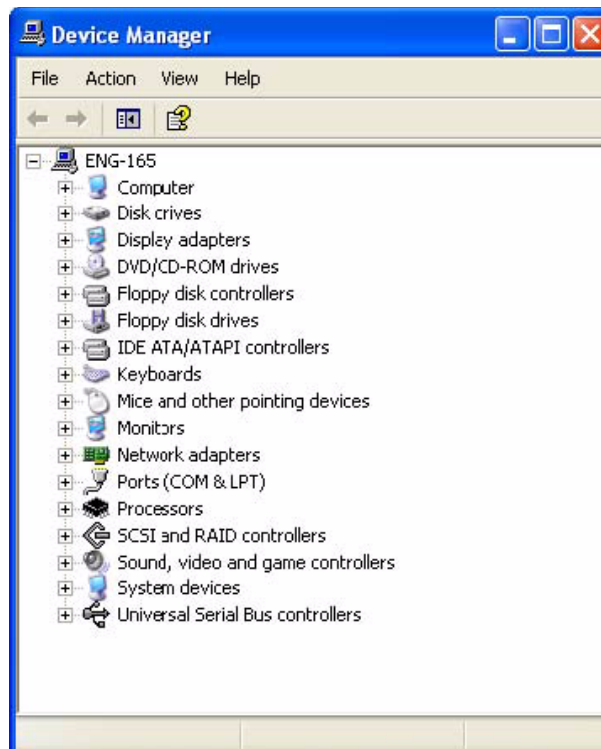

Figure 6-4 Device Manager
1. Access the Device Manager as described in steps 1 through 3 (Figure 6-4).